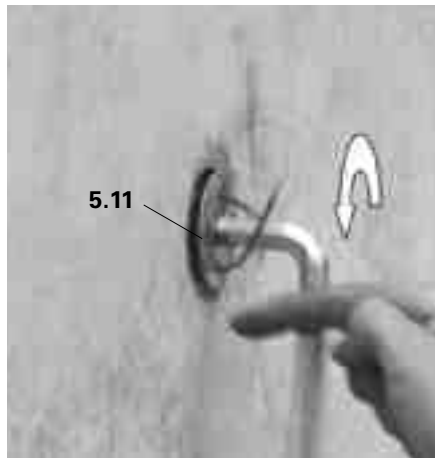

Fig. B1.16
2. Remove the Anchor Positioning Stud M24 (5.11) from the cone with an Allen Key SW 14. (Fig. B1.16)